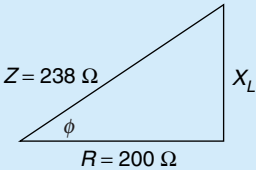

Figure 35
22. Find ϕ and X_L in Figure 35